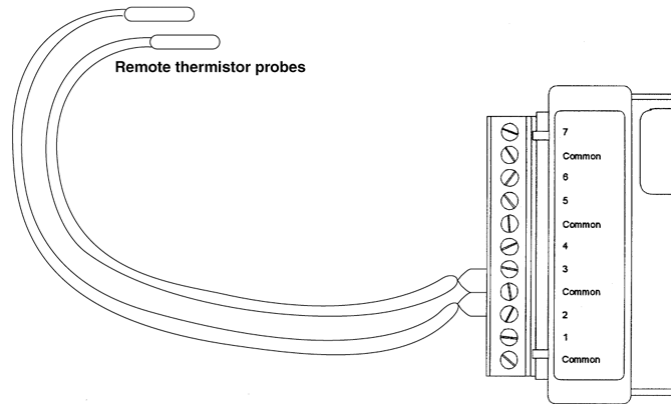

Figure 8-2: Connecting External Temperature Probes
3. To connect remote temperature probes (two-wire), simply connect one lead into an active channel (labeled 1 to 7) and the other into a terminal marked "**Common**". It does not matter which lead goes to which terminal. You can connect more than one thermistor probe lead to the same **Common** terminal. For example, Figure 8-2 shows two external probes connected to channels 2 and 3 sharing the same **Common** terminal. If you are using a thermistor probe with shielded cable, terminate the shield wire by connecting it to